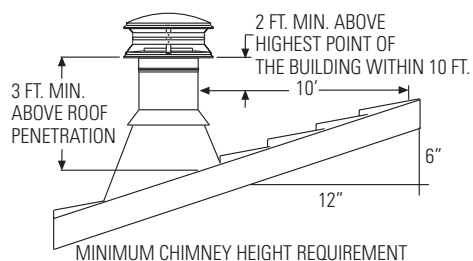

Figure 1
- Determine the minimum chimney height above the roof line. Building codes require a minimum of 3' above the roof penetration and at least 2' higher than any portion of a building within 10'. See Figure 1. The termination cap is installed above that point. If chimney is more than 5' above the roof penetration, a Roof Brace is required.